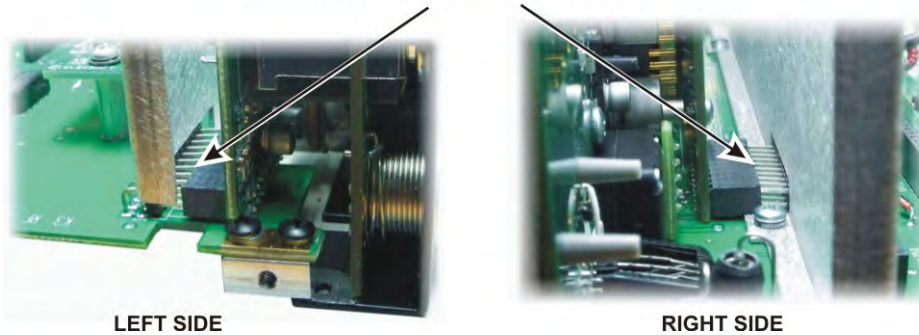

Figure 62. Mounting Front Panel Assembly - Connectors P50 and P51.
- Look at the two multi-pin connectors on the top of the RF board to see if they are engaging the corresponding connectors on the front panel assembly (see Figure 62). Adjust the position of the RF board or the front panel assembly to ensure they are mating properly.
⚠ REMOVING THE FRONT PANEL: If you need to remove the front panel assembly, remove the five screws holding it to the chassis (three on the top lip and two on the bottom), turn the unit upside down and use a screwdriver in the two pry slots provided as shown in Figure 63. Do not insert the screwdriver deep enough to strike components on the boards! Pry each end in short increments until the connectors separate. Either a blade (as shown) or Phillips screwdriver may be used. Note that you may need to remove the left side panel and the 2D mounting screw shown in Figure 62.